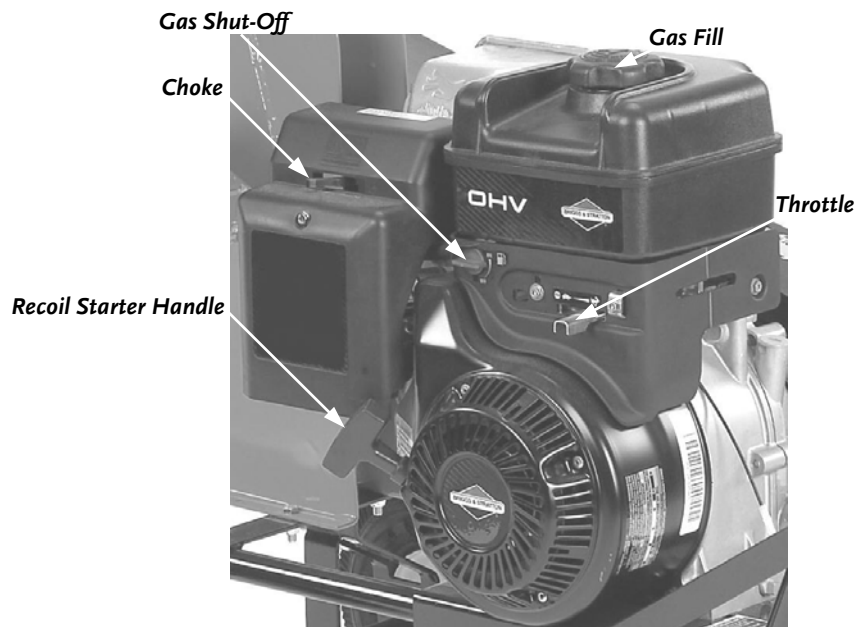

Figure 3
3. Turn the Gas Shut-Off Valve to the OPEN position (**Figure 3**).
1. When starting a cold Engine; push the Choke Control lever to the right (CHOKE) and the Throttle Control lever to the far right (**Figure 3** on page 17).
3. After the Engine starts, slowly push the Choke Control lever (**Figure 3** on page 17) to the left (RUN) position. Wait until the Engine runs smoothly before each Choke adjustment. For best Engine performance, we recommend that you operate the Engine with the Throttle in the fast (Rabbit) position (**Figure 3** on page 17).
4. To stop the Engine, move the Throttle to the slow (Turtle) position allowing the Engine to idle, then move the lever to STOP (Stop Sign) position (**Figure 3** on page 17).